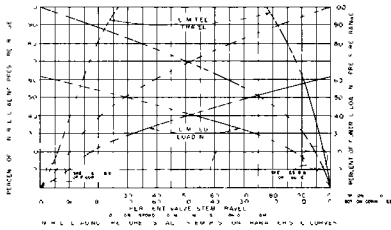

FIGURE 7 Cam A or A 1/2, Square Root Relation
2. Range Adjustment - The range adjustment (Figure 6) affords a variation of Valve motion for a given range of control loading pressure. The variation extends, roughly, from full Valve travel for a 3 to 15 psig change in control loading pressure to one-half Valve travel for a 3 to 27 psig control loading pressure change. In combination with the zero adjustment described above, full Valve travel may be obtained for as small a loading pressure change as 10 psig (e.g., 10 to 20 psig range). Range adjustments available with each Positioner cam are shown in Figures 7, 8, and 9. This adjustment is of value when the Valve is oversized since it allows operation of the Valve thru its useful motion for the desired full change in control loading pressure. It is also useful in matching the loading vs position characteristic of the Valve with those of related power devices in the same control system.
Three cams are furnished with each Positioner. Cams A, B, and C are furnished for Control Valves which have a stroke of 1-1/2 inches, 2-inches, or 2-1/2 inches and cams A-1/2, B-1/2, or C-1/2 are furnished for Valves with 3/4-inch stroke. The characteristics for which the cams are shaped are listed in Table 1 and are shown in Figures 7, 8, and 9. The Figures show a family of curves for each cam, each curve of the family representing a range adjustment when used with that specific cam. Table 2 shows pressure values of the various control loading ranges equivalent to the control loading per cent values shown in Figures 7, 8, and 9.
NOTE: In this procedure (and "Cam Shaping Method" page 11) substitute control air pressure for valve stem travel, substitute per cent rating or load (for boilers) for per cent flow. Note this substitution in the graphs of Figures 7 thru 13
4 Compare the curve made in step 3 with those shown in Figures 7, 8, and 9 and select positioning cam whose characteristic most closely matches the characteristic plotted in step 3
NOTE: Before cutting any cam, make certain that cutting will involve removal of cam material rather than building it up. Thus, if the characteristic plotted lies between the A and B cam (Figures 7 and 8), the A cam should be cut, etc Alter cam shape as follows: